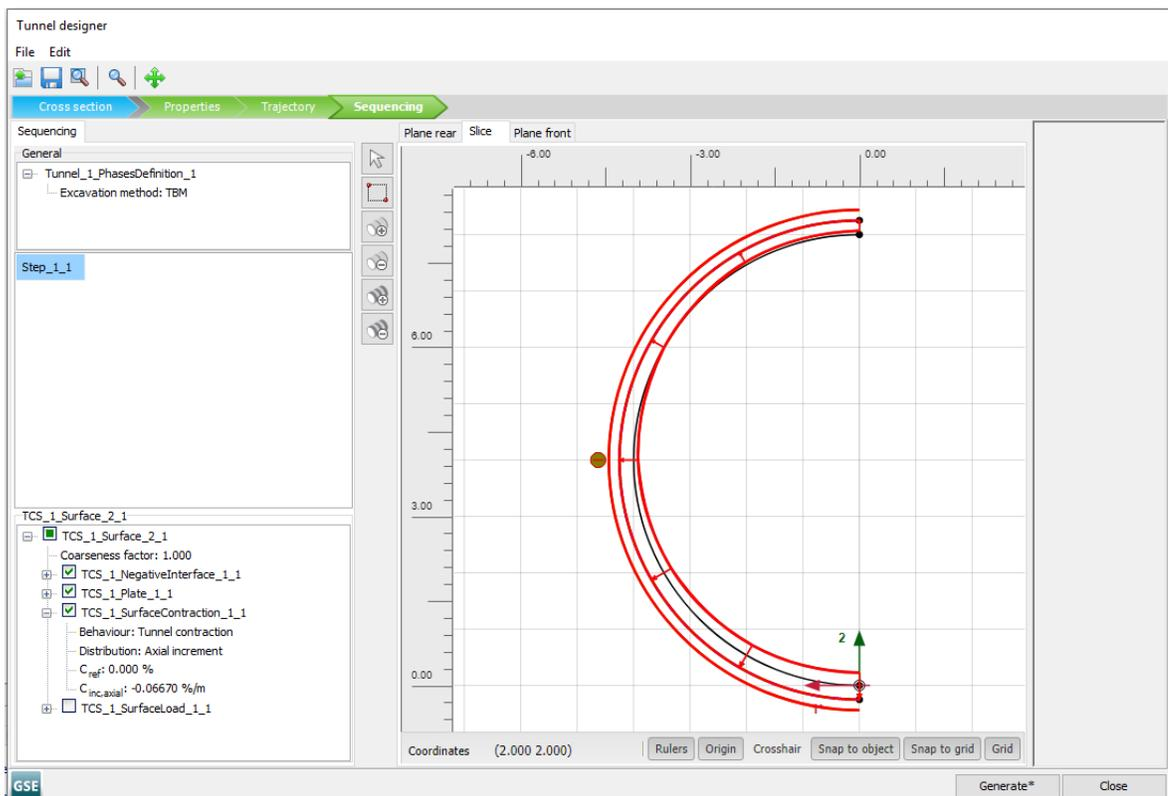

Figure 77: Slice tabsheet in the *Tunnel designer* for Step_1_1
- In the **Slice** tabsheet as well, select the outer surface. In the **Selection explorer**, activate the negative interface, the plate and the surface contraction (Figure 77 (on page 104)).